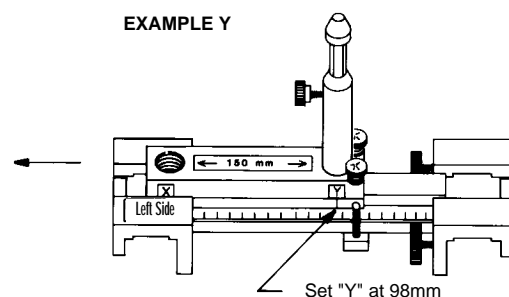

Figure 15
(Refer to Figure 13-Page 7 and Figure 15 below.)
- b) Set scribe line (under Y) at designated length (98mm). (See Figure 15.)